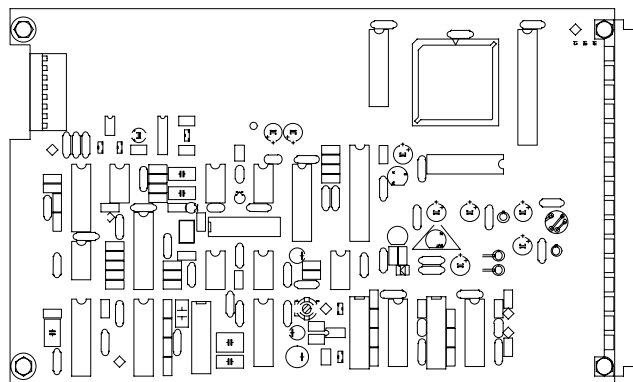

Figure 4: The modules 3 and 4, the amplifiers
- AMP3) Put I-amplifier (module4) into the next slot left of the potentiostat. The I-amplifier will be distinguished from the E-amplifier by the lot of additional relays on it (Fig4).